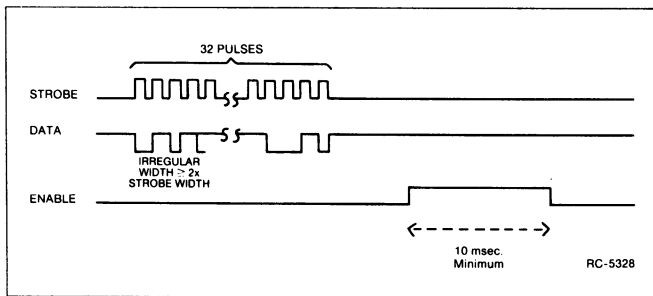

FIGURE 4 - STROBE, DATA, AND ENABLE SIGNALS
- Verify that the STROBE, DATA and ENABLE signals coming from the Control Unit are at the proper level and the proper duration (refer to Figure 4).